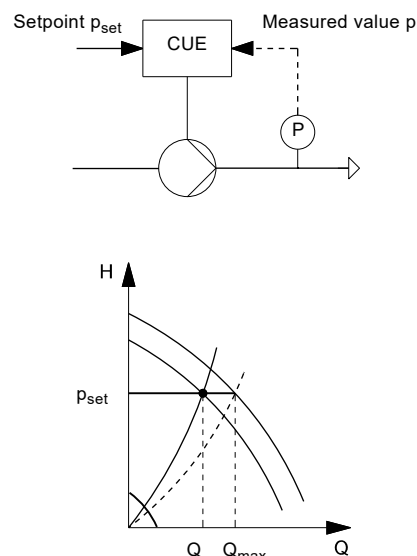

Fig. 28 Constant pressure control
The PID controller compares the required setpoint (p_{set}) with the actual value (p) measured by the transmitter (P). See fig. 28.